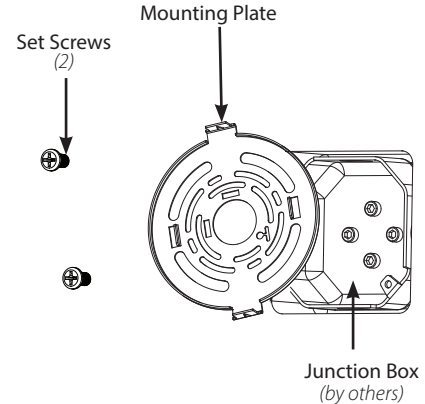

FIG. 3
3. Secure fixture Tether Cable to the Mounting Plate (Fig. 3) for hands free wiring.